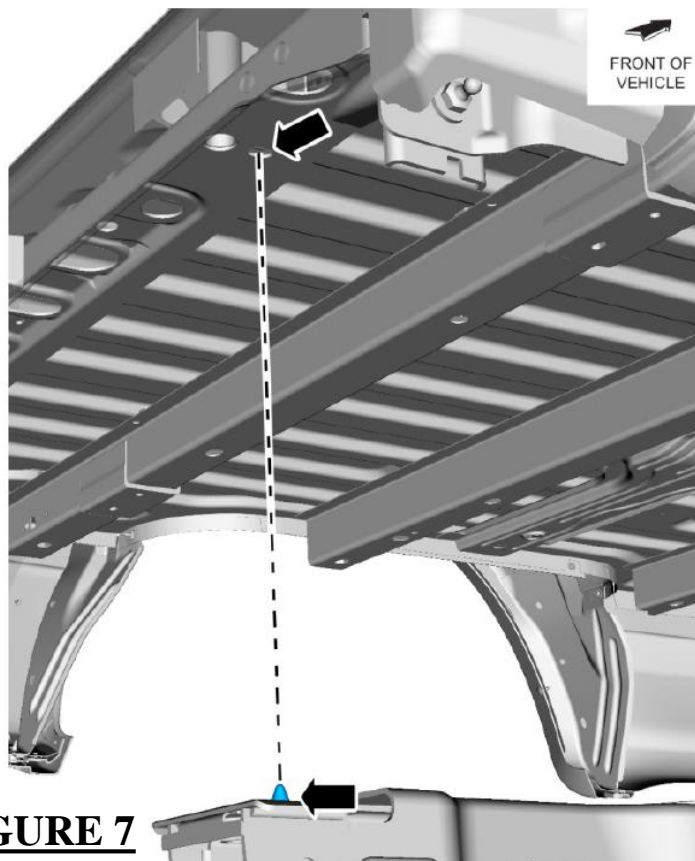

FIGURE 7
- Ensure the locating bolts shown in Figure 7 are properly installed to both the pickup frame and pickup bed to prevent misalignment.